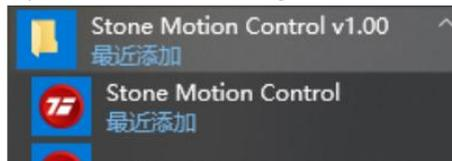

Figure 5-6 Start menu
- After setup, check the shortcut of SMC software by accessing "**Desktop**" → "**Start**" → "**All Programs**" on your computer, as shown in Figure 5-6.